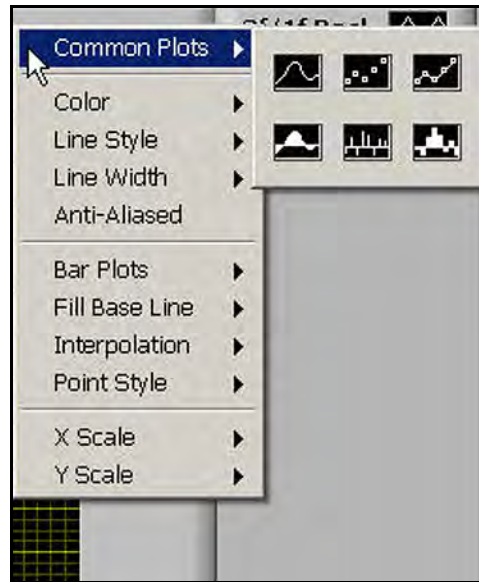

Figure 69: Options for Graphing Data
- If you right-click on any series of data within the graph, or you click on the current parameter being-trended item in the legend, you will see a variety of options for graphing data (see *Figure 69* below). You can change to a variety of common plots and adjust color, line style, and line width. For some data sets with lots of finite points, you may want to click Anti-Aliased which will smooth the plot line. You can also change bar plots, fill base line, interpolation and point style. X-Scale adjusts the x-scale. Y-Scale adjusts the y-scale and enables the secondary y-axis.